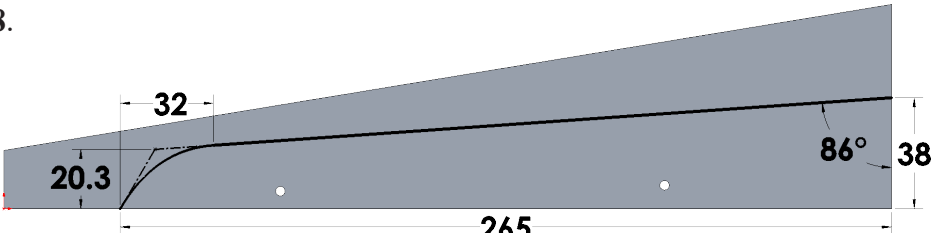

Fig. 9
Step 9. Add dimensions, **Fig. 9**. The 20.3 is from control vertex spline point to body edge.